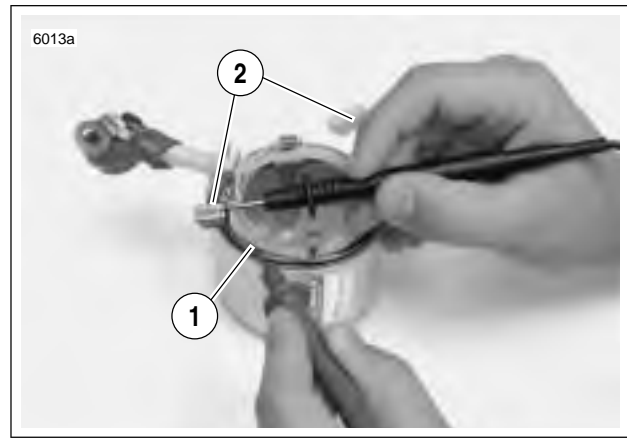
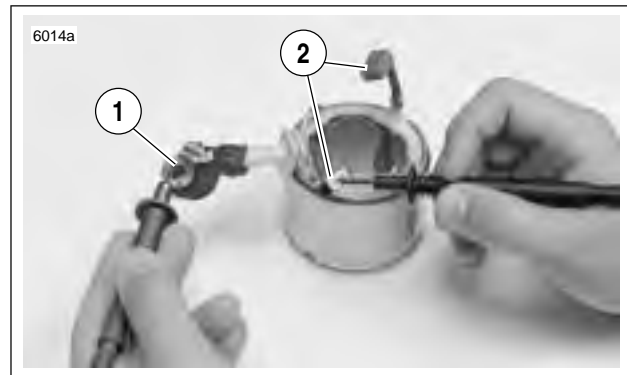

Figure 5-22. Grounded Field Test
Figure 5-23. Open Field Test
12. See Figure 5-22. Check for GROUNDED FIELD COIL with an ohmmeter or continuity tester.
- a. Touch one probe to the frame (1).
- b. Touch the other probe to each of the brushes (2) attached to the field coil.
13. See Figure 5-23. Check for OPEN FIELD COILS with an ohmmeter or continuity tester.
- a. Touch one probe to the field wire (1).
- b. Touch the other probe to each of the brushes attached to the field coil(s) (2).